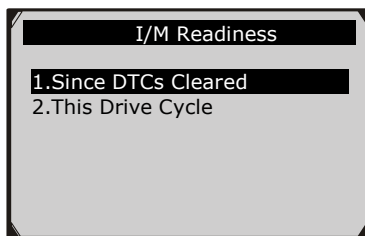

Figure 6-20
- 3) If the vehicle supports both types of tests, then both types will be shown on the screen for selection. (Figure 6-20)